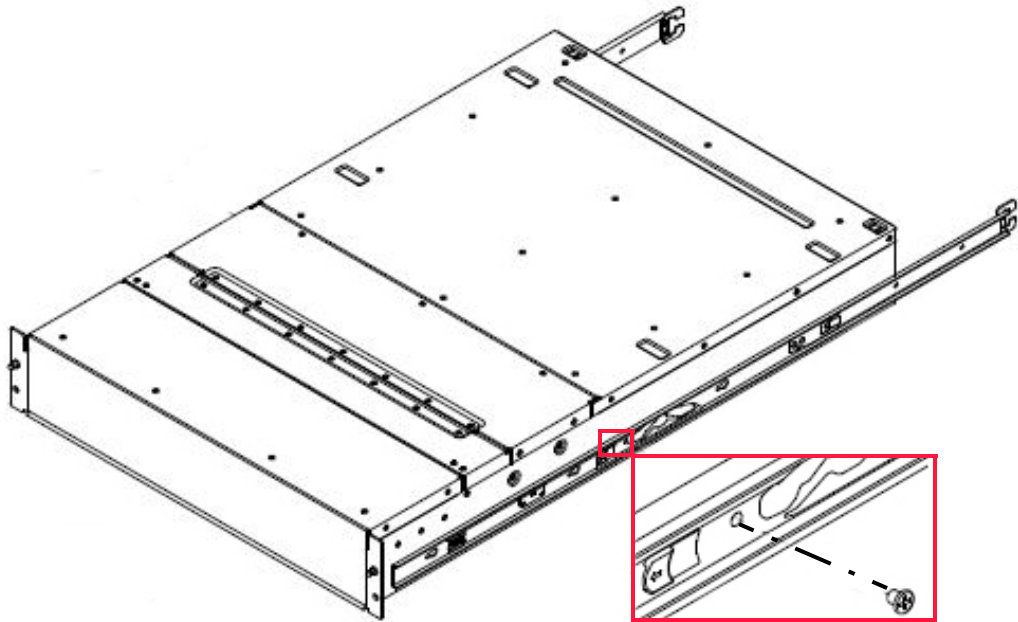

Figure 4.15 Securing the rail
3. Secure the rail in place using one of the M4 X 4 screws in the hole just behind the release tab as identified in Figure 4.15 on page 40.